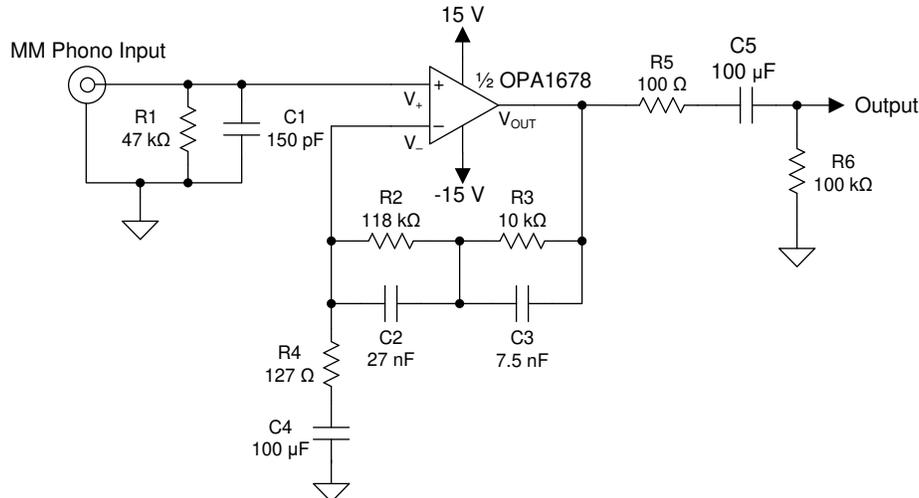

Figure 8-4. Phono Preampifier for Moving Magnet Cartridges (Single-Channel Shown)
The noise and distortion performance of the OPA167x family of amplifiers is exceptional in applications with high source impedances, which makes these devices a viable choice in preamplifier circuits for moving magnet (MM) phono cartridges. Figure 8-4 shows a preamplifier circuit for MM cartridges with 40 dB of gain at 1 kHz.